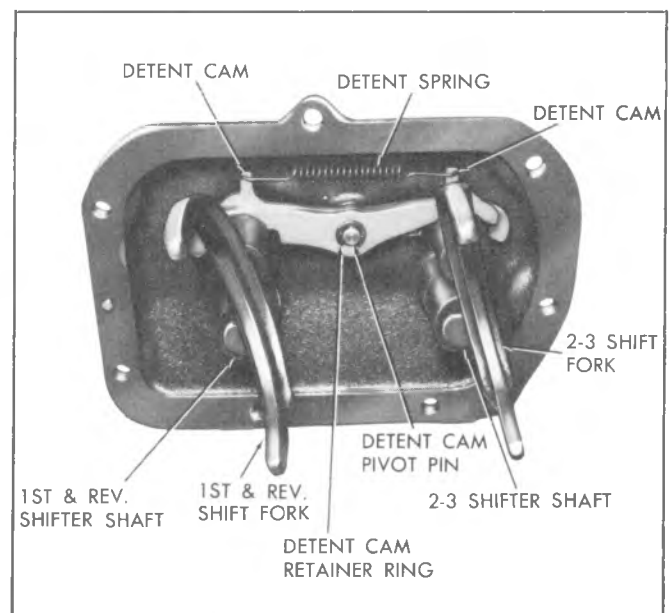

Fig. 7B-20-Transmission Side Cover Assembly
4. Slide boot and retainer up on shift lever and remove the transmission shift lever using Tool J-8109 as shown in Figure 7B-17.